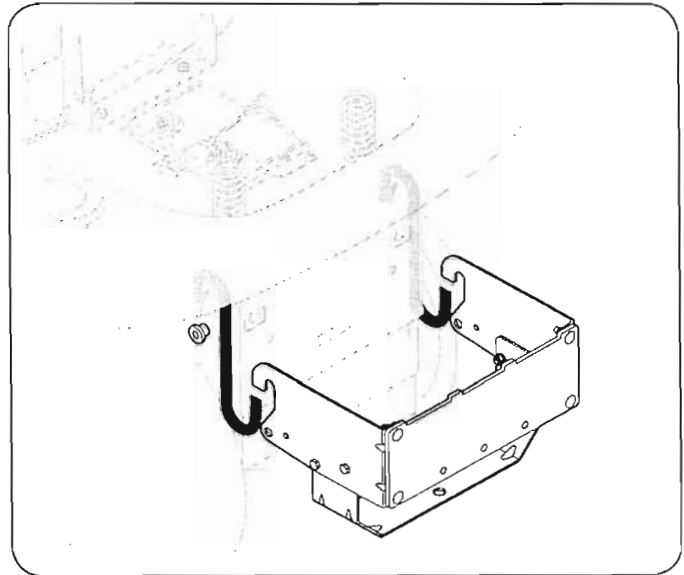

Figure 4-7
1. Place the hooked ends of the mounting assembly over the shoulder bolts, as in Fig. 4-7, on the tractor and line up the hitch support bracket center hole with the hole on the